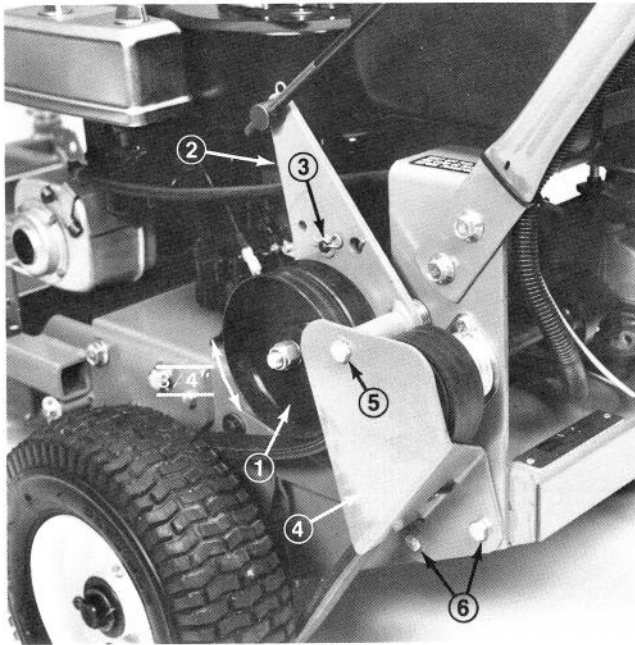

Figure 21
1. Check travel of idler pulleys when fully engaging wheel belts. Pulley travel should be approximately 3/4" (Fig. 21).
1. Remove top capscrew securing idler support and idler bracket to rear frame (Fig. 21).
2. Loosen bottom two mounting screws enough to allow belt to pass between drive pulley and idler support (Fig. 21).